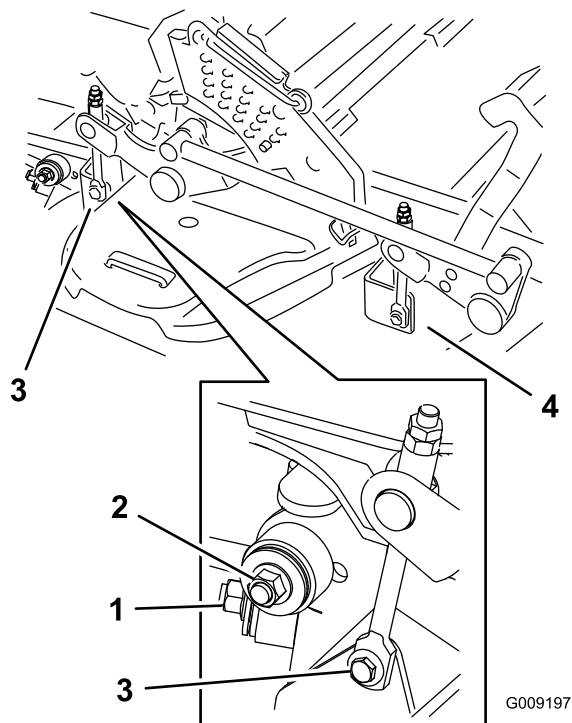
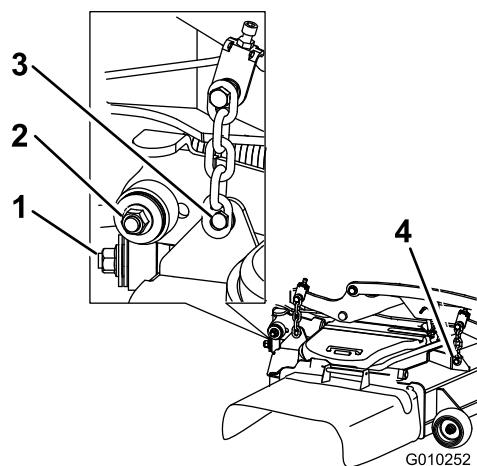

Figure 106
Figure 107
7. Remove and retain the hardware on both sides of the deck as shown in Figure 106 or Figure 107.